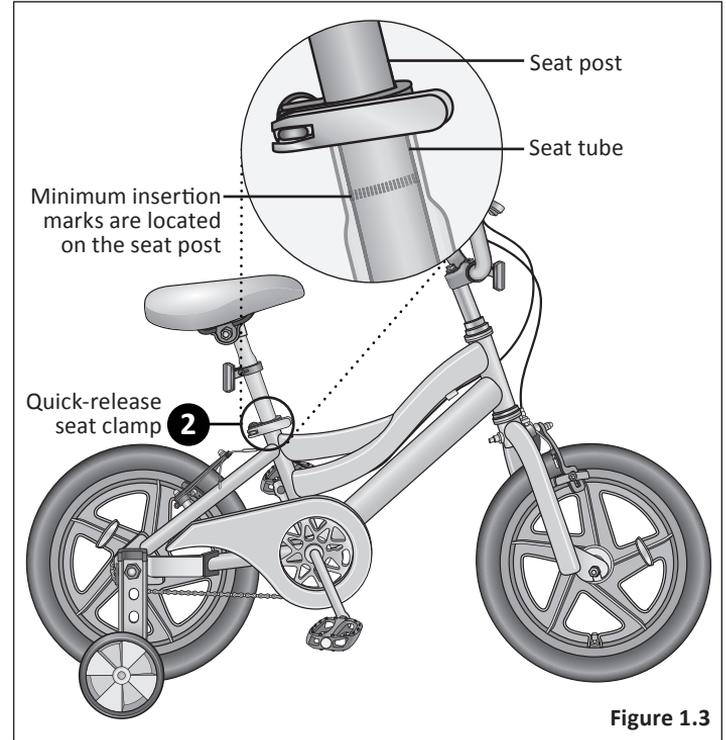

Figure 1.3
- 2 Ensure the seat post's ***minimum insertion marks*** are ***not*** visible above the seat clamp and the clamp is locked in place. **Figure 1.3**